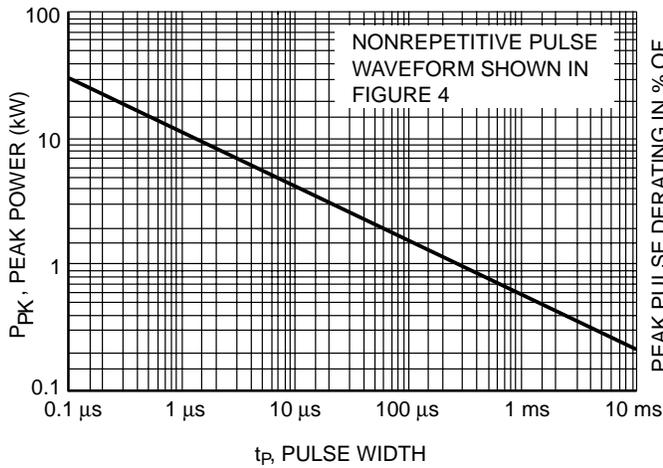
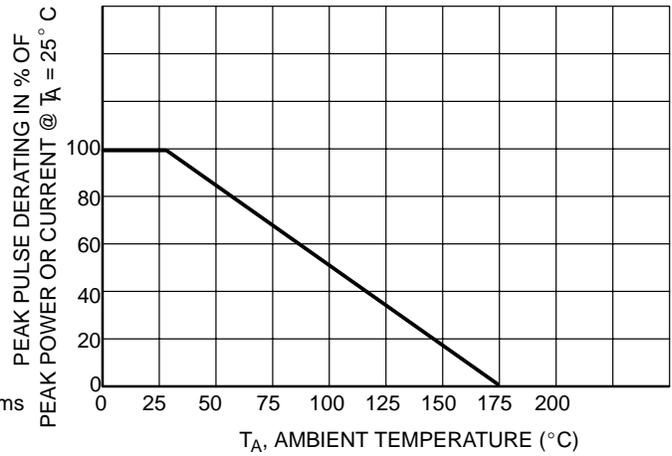
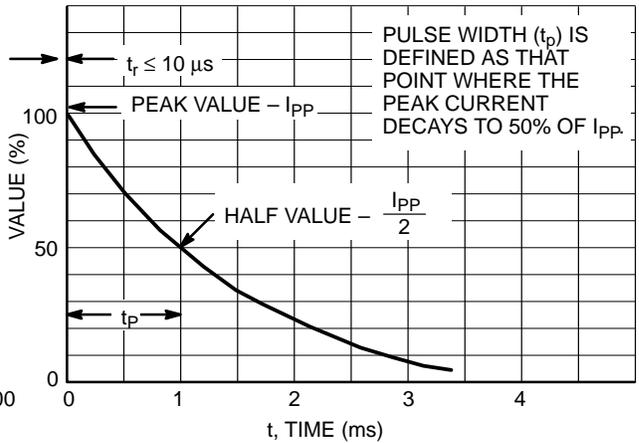
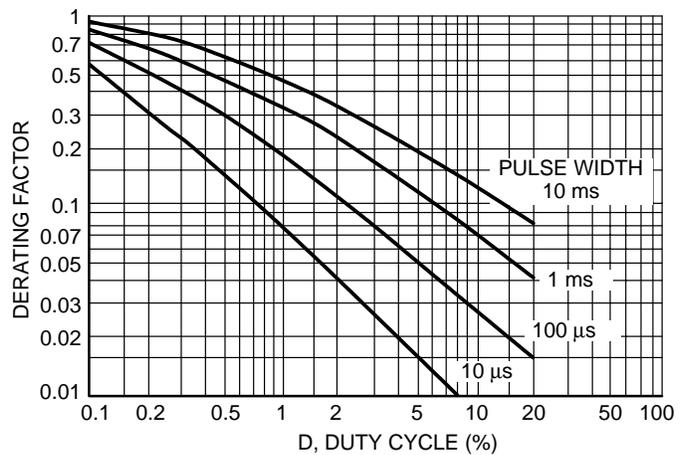

Figure 1. Pulse Rating Curve
Figure 2. Pulse Derating Curve
Figure 4. Pulse Waveform
Figure 6. Typical Derating Factor for Duty Cycle
1. Nonrepetitive current pulse per Figure 4 and derated above $T_A = 25^\circ\text{C}$ per Figure 2.
5. Surge current waveform per Figure 4 and derate per Figures 1 and 2.
The data of Figure 1 applies for non-repetitive conditions and at a lead temperature of 25°C . If the duty cycle increases, the peak power must be reduced as indicated by the curves of Figure 6. Average power must be derated as the lead or ambient temperature rises above 25°C . The average power derating curve normally given on data sheets may be normalized and used for this purpose.
At first glance the derating curves of Figure 6 appear to be in error as the 10 ms pulse has a higher derating factor than the $10\ \mu\text{s}$ pulse. However, when the derating factor for a given pulse of Figure 6 is multiplied by the peak power value of Figure 1 for the same pulse, the results follow the expected trend.